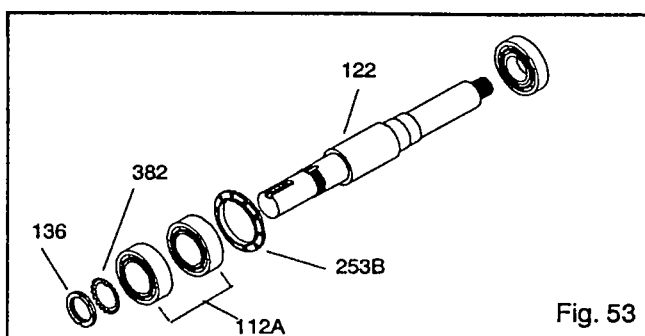

Fig. 53
7. Remove inboard bearing (168A) (Fig. 53).
8. Remove bearing locknut (136) and bearing lockwasher (382).